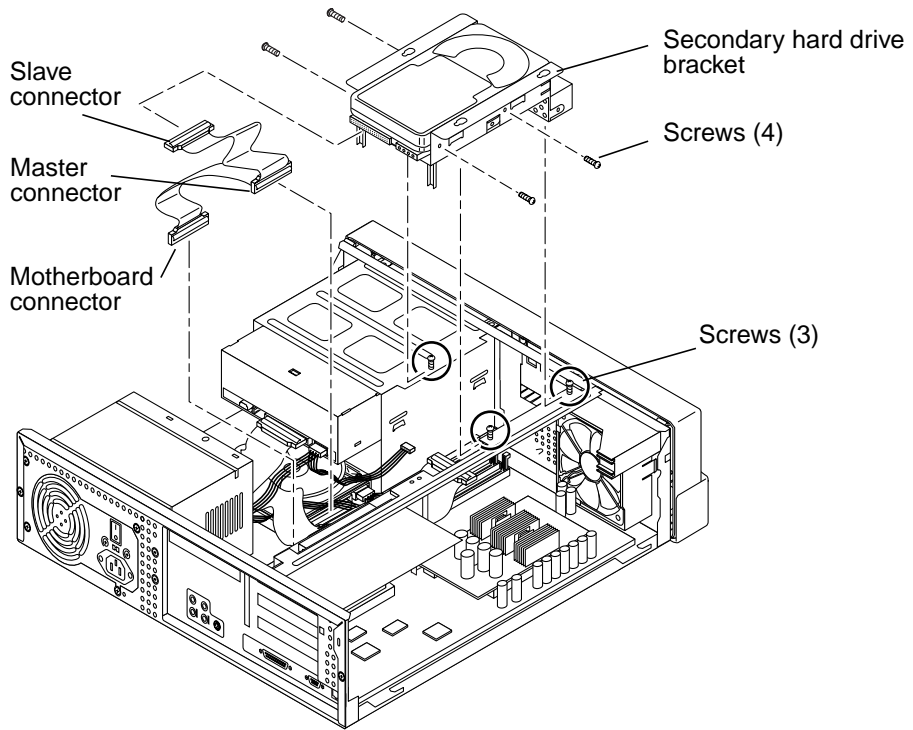

FIGURE 7-6 Installing a Secondary Hard Drive
3. **Loosen, but do not remove the three screws that hold the diskette drive bracket to the chassis (FIGURE 7-6).**